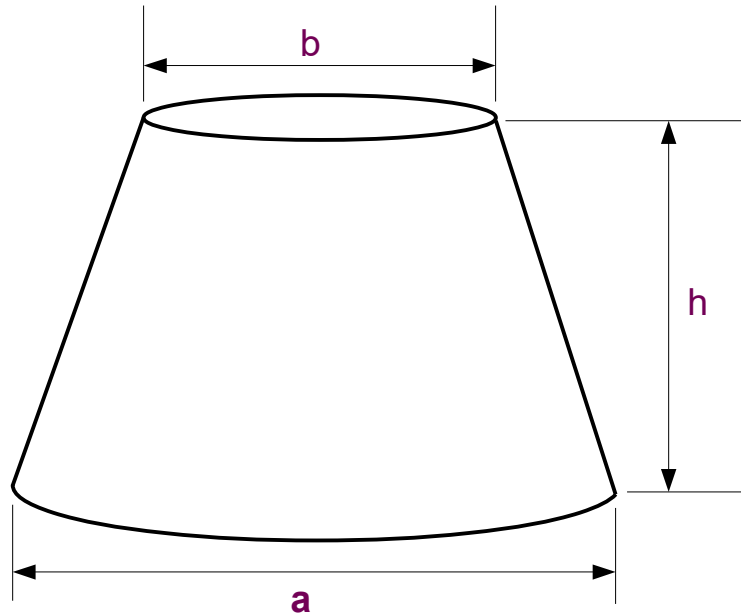
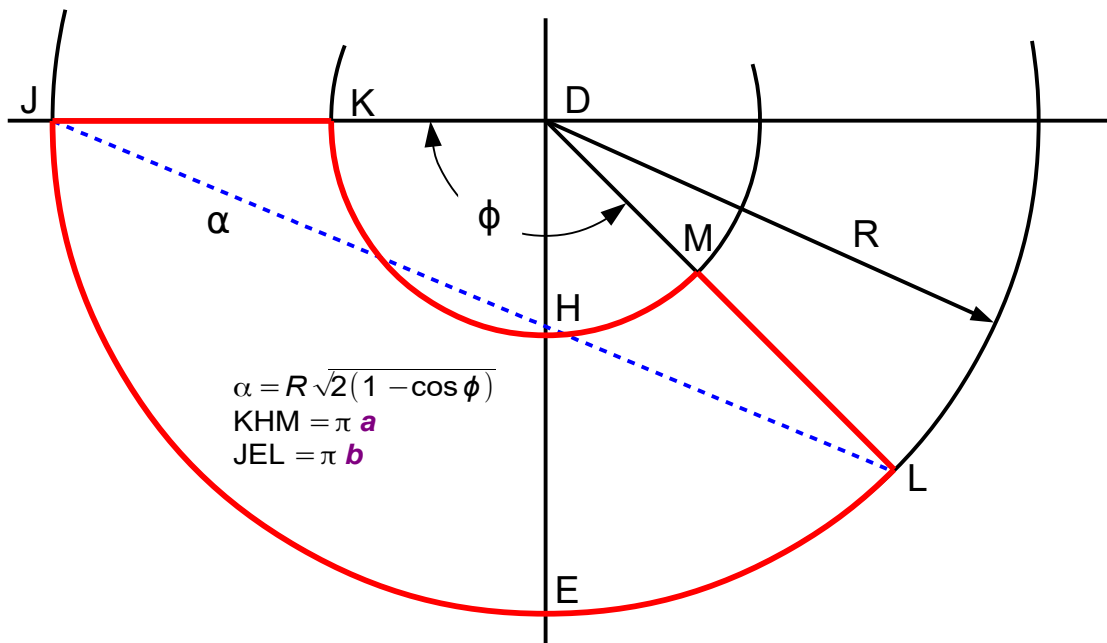

Figure 1
Figure 6
Step 5 (Figure 6): draw the line JK, then set the dividers to $1/15^{\text{th}}$ to $1/20^{\text{th}}$ of πa . Using this constant setting, step off the circumference of the base of the cone (πa from Figure 1) starting from point J along the circle of radius R . The ending point is L; draw the line LM along the radius from D to complete the pattern (the pattern is colored red):
The pattern to cut out is EJKHMLE, shown in red in Figure 6. When rolled into shape and the ends JK and LM are connected together, your frustum will be complete. If you wish, make the edges overlap a bit so they can be connected by riveting, soldering, etc.
a vertical cut in Figure 4 through line CD and roll it out until it lies in the plane of the paper. The four points A, B, F, and G are fixed; what you wind up with is the development shown in Figure 6.
The angle ϕ in Figure 6 is then this arc length divided by the radius *R*